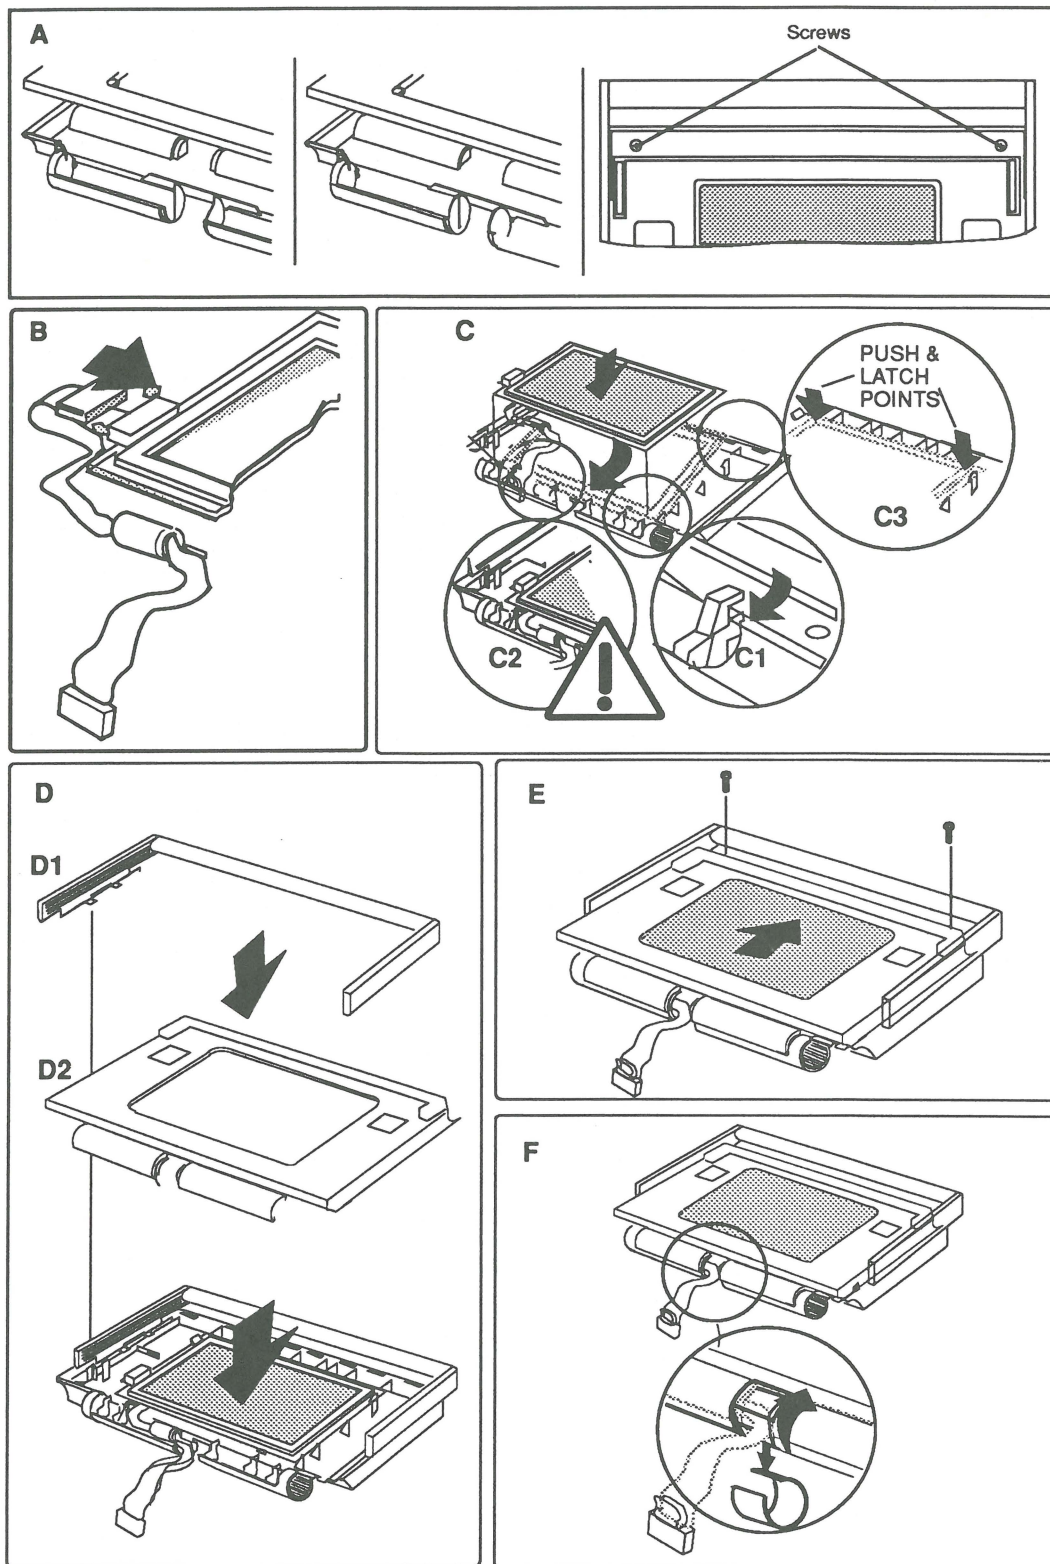

FIGURE 15
Note: Three sets of display housings and bezels exist for the Portable. These plastics are functionally equivalent—however, they must be used as sets. **Figure 15-A** illustrates these differences and the correct combinations.
1. **Figure 15-B.** Connect the display cable to the display.
2. **Figure 15-C1.** Place the bottom edge of the display into the two plastic clips at the bottom of the display housing.
Note: Figure 15-C2. Make sure the display cable is placed as shown. The cable must lie flat under the display, and the cable and ferrite bead must be carefully placed in the channel.
3. **Figure 15-C3.** Press down on the corners of the display with your thumbs until it snaps in place.
5. **Figures 15-D1.** Place the carrying handle in position in the display housing. The plastic clips should be in the channel at the edge of the housing.
6. **Figure 15-D2.** Place the display bezel on the housing as shown in the illustration. You'll need to hold the carrying handle in position.
7. **Figure 15-E.** Slide the bezel evenly toward the top of the housing as shown in the illustration.
8. **Figure 15-E.** If screw holes are present, replace the two Phillips screws at the upper-right and upper-left corners of the display bezel.
9. **Figure 15-F.** Snap the center pivot cover back on the display pivot as shown in the illustration.